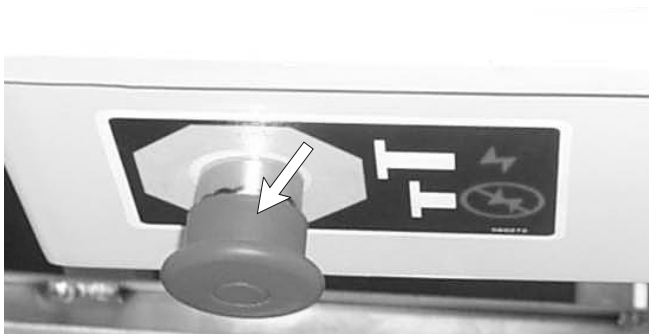

Figure 8.9
- To raise the platform, press and hold the Platform Lift/Lower switch ① up (see Figure 8.9).
②
- To lower the platform, press and hold the Platform Lift/Lower switch ① down (see Figure 8.9).